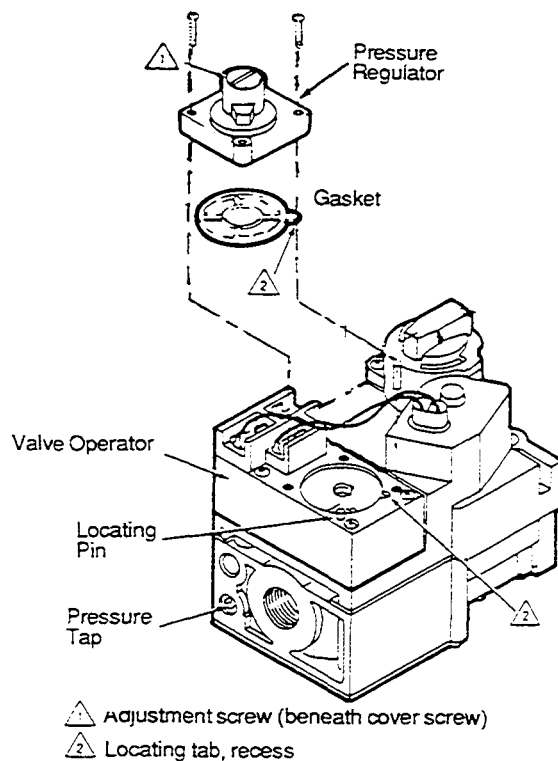

Figure 52. Conversion Kit
2. Attach Propane gas pressure regulator (MM P/N 28092-0015) as shown in Figure 52. **DO NOT** use old gasket, a new gasket is supplied with kit.
2. Attach Natural gas pressure regulator (MM P/N 28092-0016) as shown in Figure 52. **DO NOT** use old gasket, a new gasket is supplied with kit.